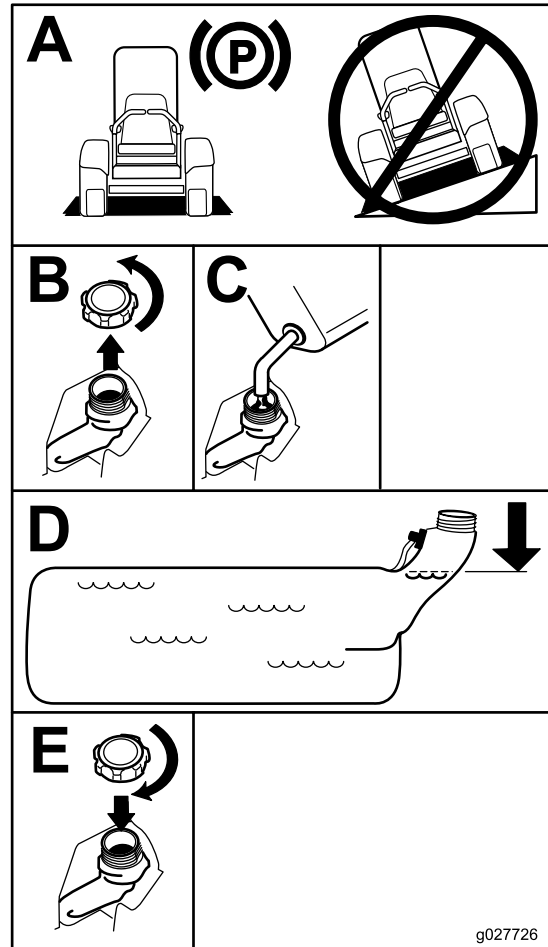

Figure 8
- Fill the fuel tank to the bottom of the filler neck (Figure 8).